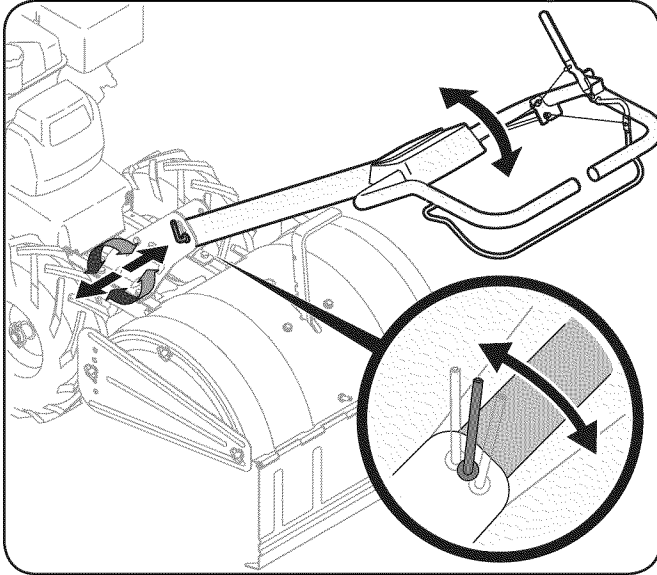

Figure 3-2
- The handle should be adjusted so that when the tiller is digging 3-4" into the soil, the handle falls to about waste-high. To adjust the handle, simply loosen the handle adjustment crank, move the handle to the desired height and retighten the adjustment crank. See Fig. 3-2.